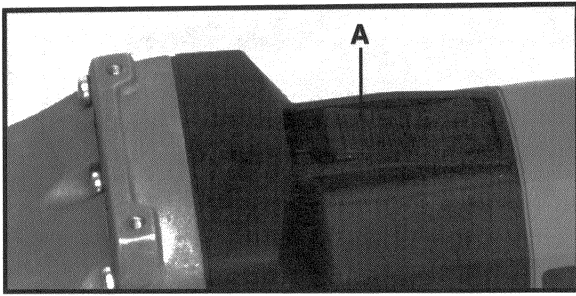

Fig. 1
3. Slide switch button (A) Fig. 1, forward to turn tool ON. When released, the switch button will return to the OFF position.
4. To lock the switch in the ON position: with the switch ON, depress the front end of the switch button (A) Fig. 1. To release the switch lock: depress the rear end of the switch button, allowing the switch to slide into the OFF position.